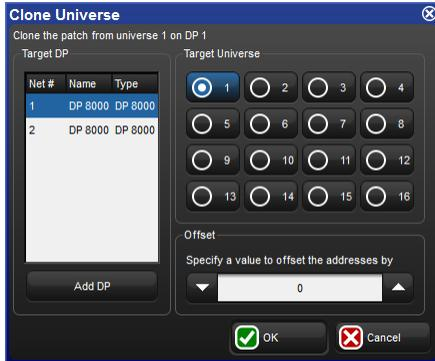

Figure 5.5. The Clone Universe window
3. Press Clone Universe. The Clone Universe window will open; see *Figure 5.5, "The Clone Universe window"*.